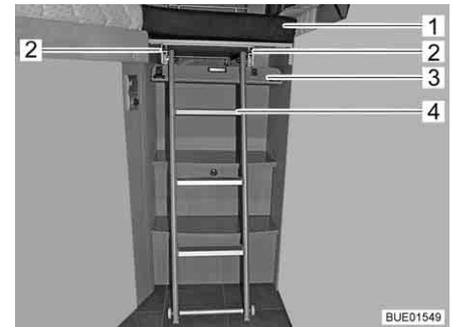

Fig. 138 Bed widening with access ladder
- Swivel panel (Fig. 138,3) downwards. The panel is held in place with magnet fasteners.
- Unlock the access ladder (Fig. 138,4) and pull it out slightly from the rails (Fig. 138,2).
- Place the additional cushion (Fig. 138,1) on the bed widening.